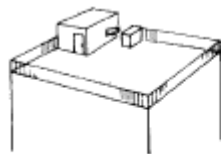

Fig. 17
3. When the outdoor unit is installed on the roof or a place where there isn't other buildings around, please do as illustrated below. (See Fig. 17) to avoid strong wind blowing the air outlet directly, which may cause troubles to the unit.